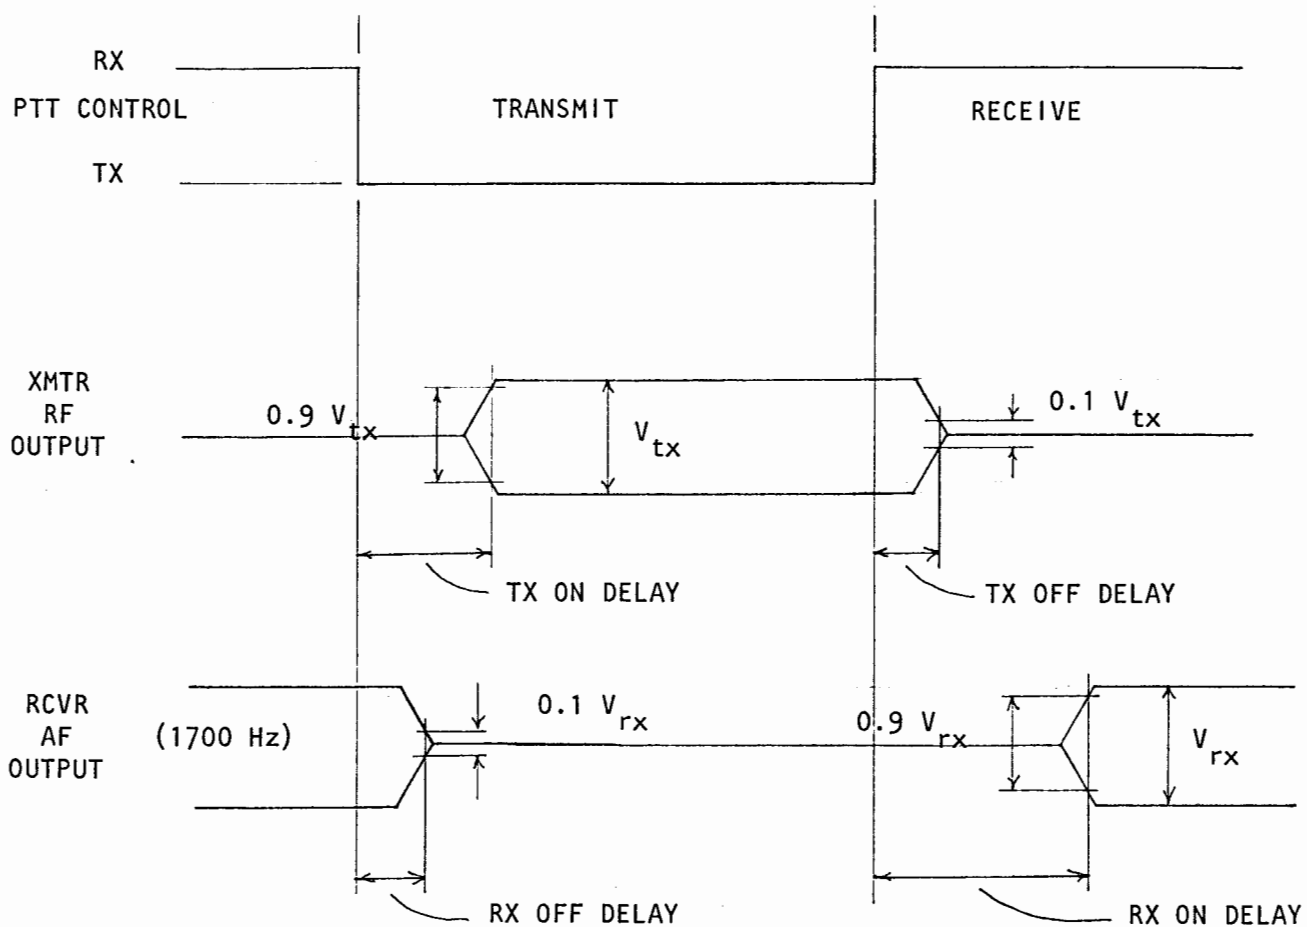

FIGURE 9. ARQ TX/RX TIMING
All real transmit-receive system delays can be expressed in terms of four times: (1) transmitter turn-on, (2) transmitter turn-off, (3) receiver turn-on (or recovery), and (4) receiver turn-off delay. Of these four possible sources for system errors, the transmitter turn-off and receiver turn-on are usually the most damaging. These delays may be measured on your transmitter and receiver system with a triggered-sweep oscilloscope. Trigger the start of the sweep from either the leading or trailing edge of a pulse applied to the transmit-receive control circuit (PTT). Observe the RF output envelope of the transmitter to measure transmitter delays. Tune the receiver to produce a mark audio tone and observe the audio output envelope to determine the receiver delays. These time delays are shown graphically in Figure 9.